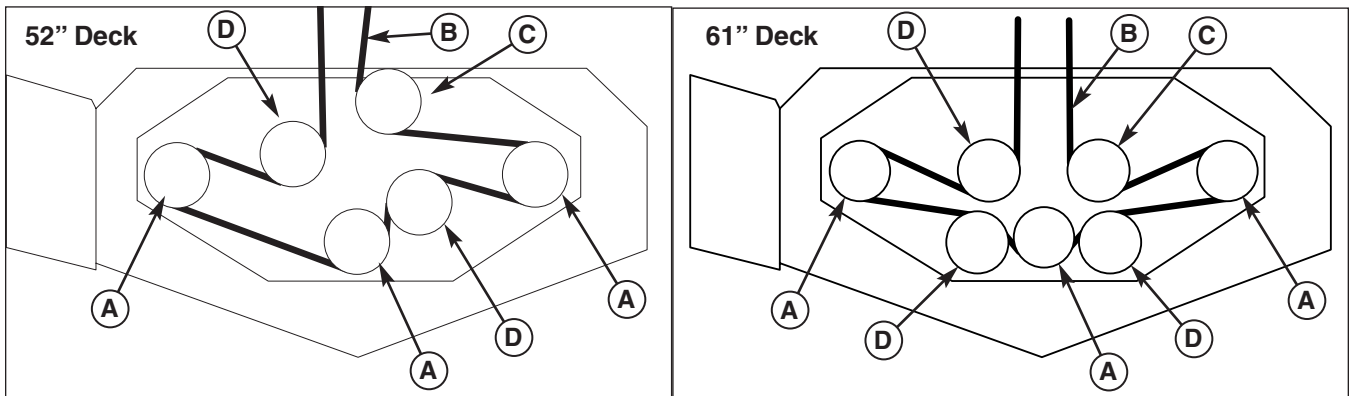

Figure 45. Mower PTO Belt Routing
4. Remove the old belt and replace with a new one. Make sure the V-side of the belt runs in the pulley grooves (Figure 45).